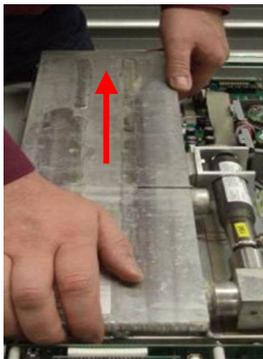

Fig. 55: Pulling out the tank
12. ▶ Lift up the tank in the rear section and carefully pull it out towards the rear (Fig. 55).